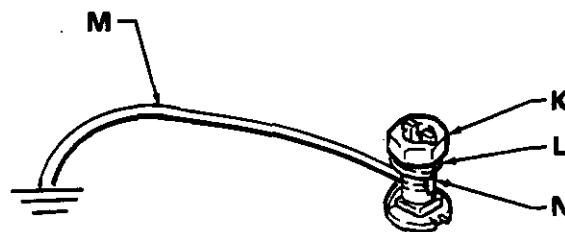

Fig 1
1. *Pump*: use ground wire and clamp as shown in Fig 1.
To ground the pump, loosen the grounding lug locknut (K) and washer (L). Insert one end of the ground wire (12 ga minimum) (M) into the slot in the lug (N) and tighten the locknut securely. See Fig 1. Connect the other end of the wire to a true earth ground. Refer to page 11 to order a ground wire and clamp.